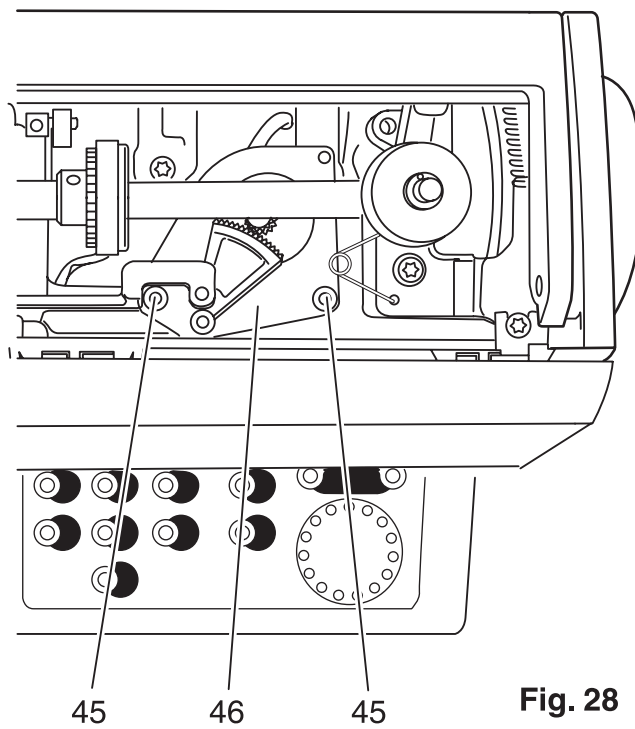

Fig. 28
- Loosen both screws 45 just a little (fig. 28).